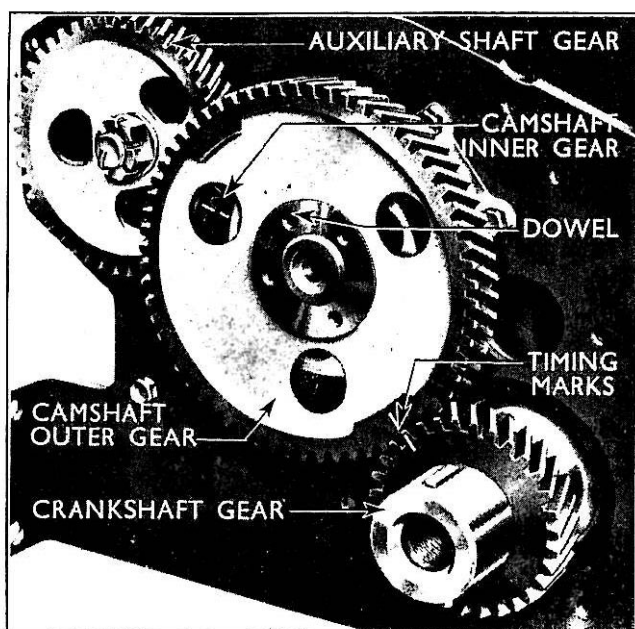

Fig. 33
The camshaft and auxiliary drive shaft are driven from the crankshaft by helical gears. Should they at any time be disturbed the timing gears are suitably marked to facilitate re-timing and the marks are all relative to top dead centre compression stroke, No. 1 cylinder. (See Fig. 33.)
- 2 Check the backlash between the gears using a suitable feeler gauge. This should be between 0.003 in. and 0.004 in. (See Figs. 33 and 34.)
- 3 Replace the auxiliary drive shaft gear making sure that its timing mark is in line with that on the camshaft inner gear. (See Fig. 33.)